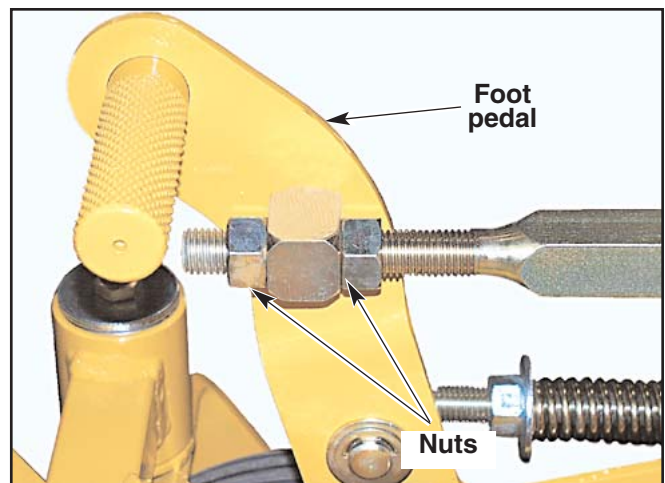

Figure 9-39
7. Loosen the two nuts on the front of height indicator so that the foot pedal is free. Fig. 9-39
12. While keeping the chain tight, tighten the nuts against the deck lift block on the height indicator rod. Fig. 9-39